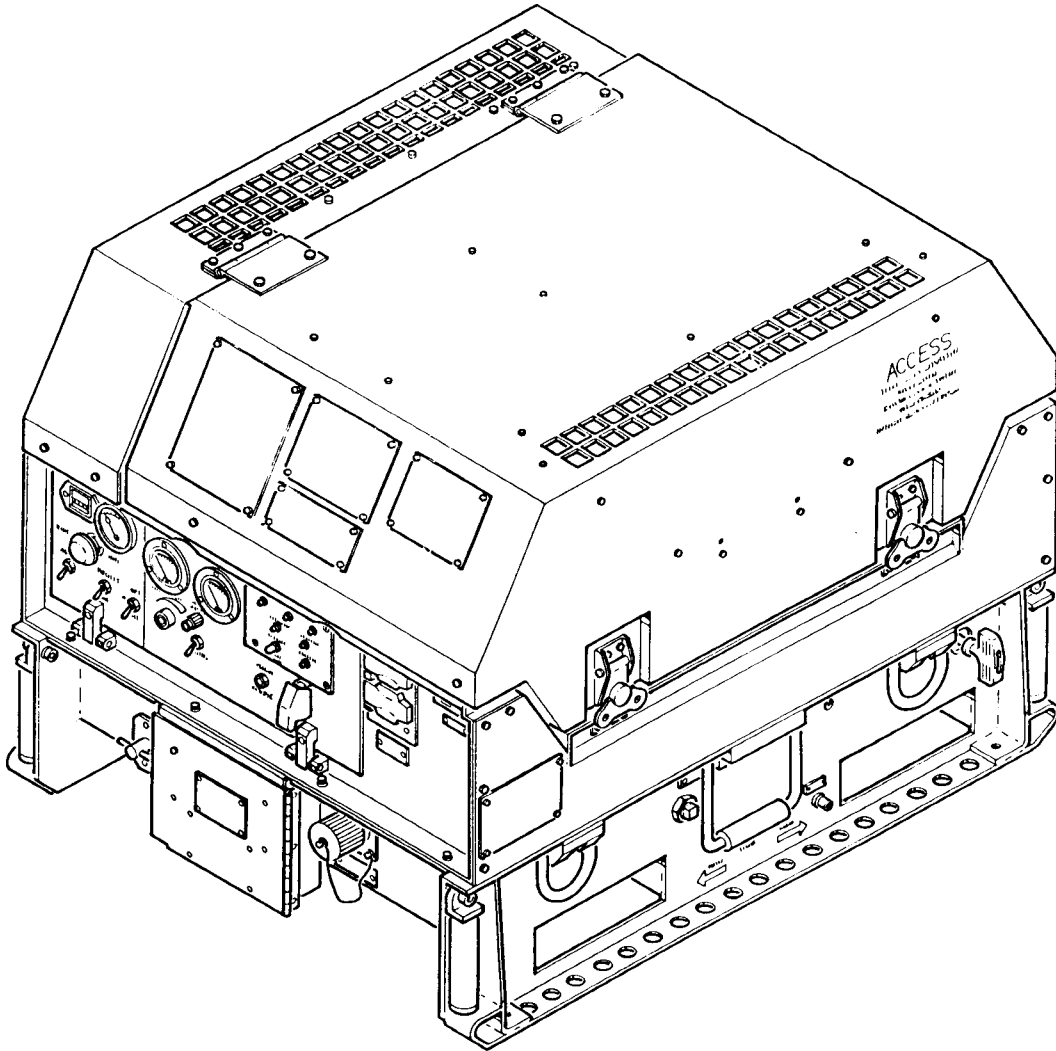

Figure 1-1. 3kW Tactical Quiet Generator Set
a. This manual provides instructions on operation, troubleshooting and maintenance of the 3kW Tactical Quiet Generator Set, MEP 831A (60 Hz), NSN 6115-01-285-3012, and MEP 832A (400 Hz), NSN 6115-01-287-2431. Information is provided on principles of operation, controls and indicators, preventive maintenance checks and services, lubrication, operation, troubleshooting, and maintenance. Refer to Figure 1-1 for full view illustration of the Generator Set showing features pertinent to set operation and maintenance.